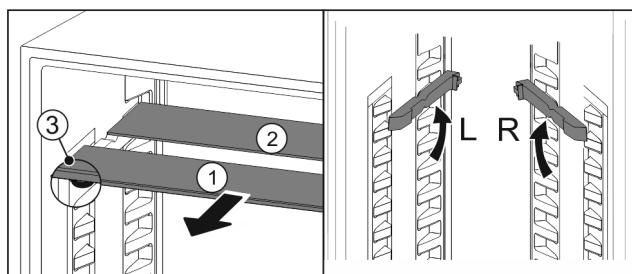

Fig. 135
- Pull the glass panels out Fig. 135 (1) from the front, one at a time.
- The glass panel Fig. 135 (1) with the trim strip is at the front.
- The stops Fig. 135 (3) point downward.